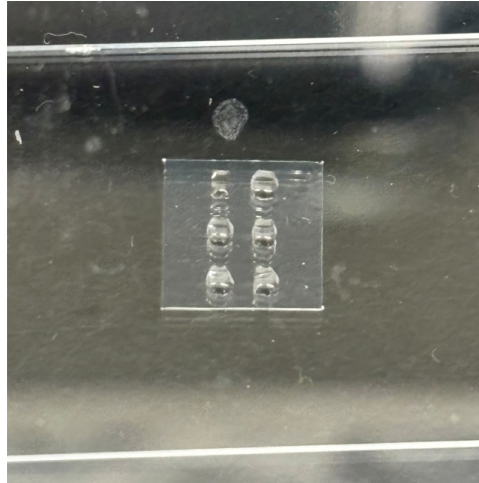

Figure 7: After Introducing Each Concentration of Solution
10. Use a gel loading pipette tip and fill the window with Human IgG(Figure 7)